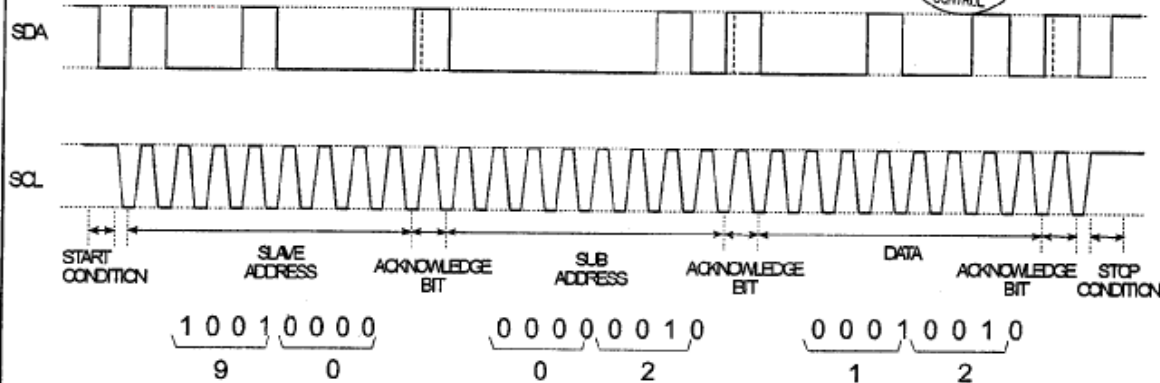

Fig.1 Example of transmission message
- (f) Acknowledge Bit    This is a bit by which the master acknowledges that data was successfully received in each octet. Master sends the HI signal and the receiver sends back the LO signal as shown in Figure1 with dotted line, causing the master to acknowledge the reception by the receiver. If the LO signal is not returned, communication will be halted.